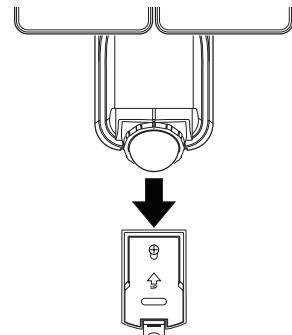

Figure 7
- Slide the rear of the light fixture down onto the mounting plate until it snaps into place (see Figure 7).